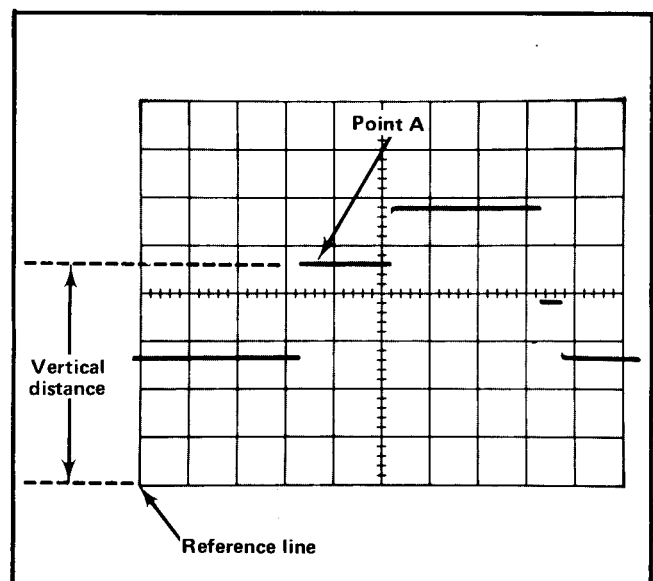

Fig. 2-2. Measuring instantaneous voltage with respect to same reference.
6. Measure the distance in divisions between the reference line and the point on the waveform at which the DC level is to be measured. For example, in Fig. 2-2 the measurement is between the reference line and point A.
EXAMPLE: Assume the vertical distance measured is 4.6 divisions (see Fig. 2-2) and the waveform is above the reference line using a 10X probe with a VOLTS/DIV switch setting of 0.5 V.